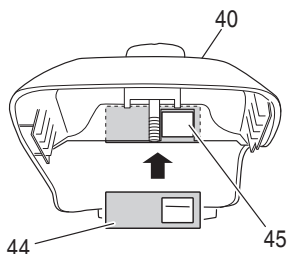

Fig. 43
Icing protection system (Fig. 43, 44)
1. When you need icing system work, remove air filter cover (40). Pull out the shutter (44) from inside the air filter cover and reinstall it in winter time position by turning half-way. (Fig. 43) This will allow heated air to flow from cylinder side to carburetor cabin through the opening (45).